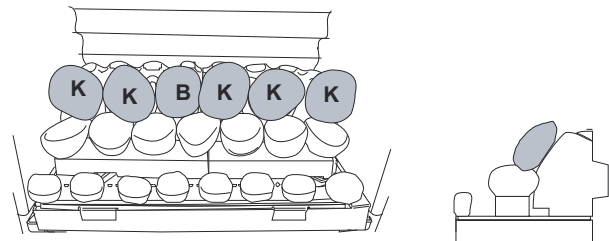
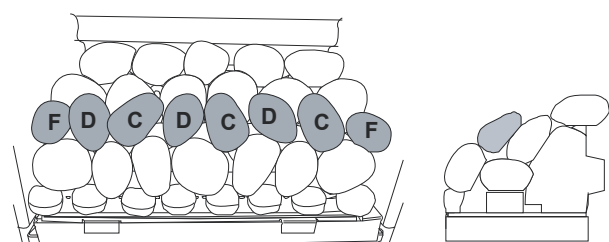

Figure 28
Figure 31
5. Proceed with laying the rest of the pebbles in accordance with **Figure 28** to **Figure 31**.